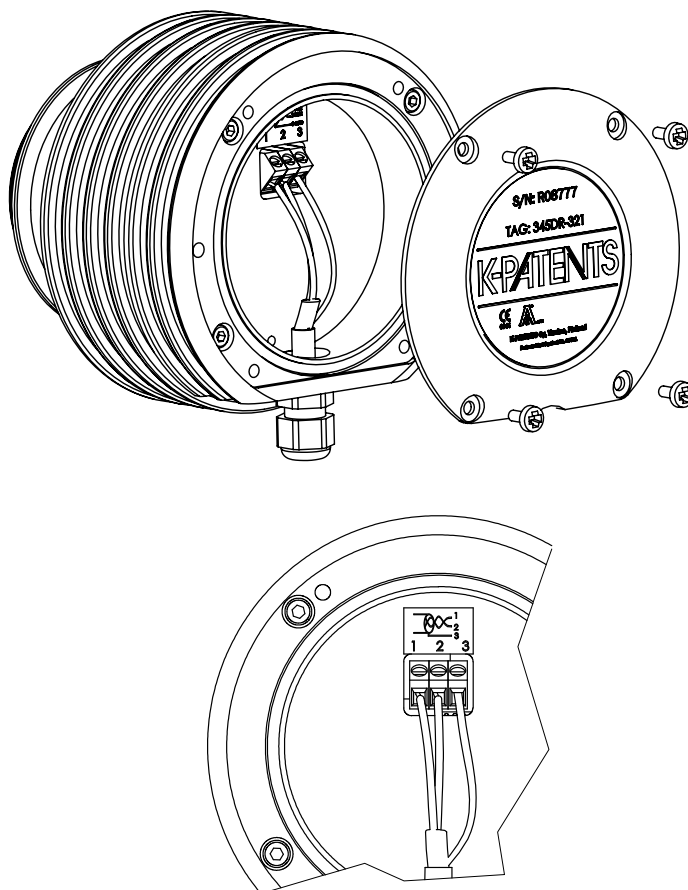

Figure 3.4 Sensor electrical connections
1. Remove the four screws holding the Sensor nameplate (Figure 3.4). The terminal strip is under the nameplate.
2. Connect the signal wires to terminal (1) and (2), and the cable shield to terminal (3).